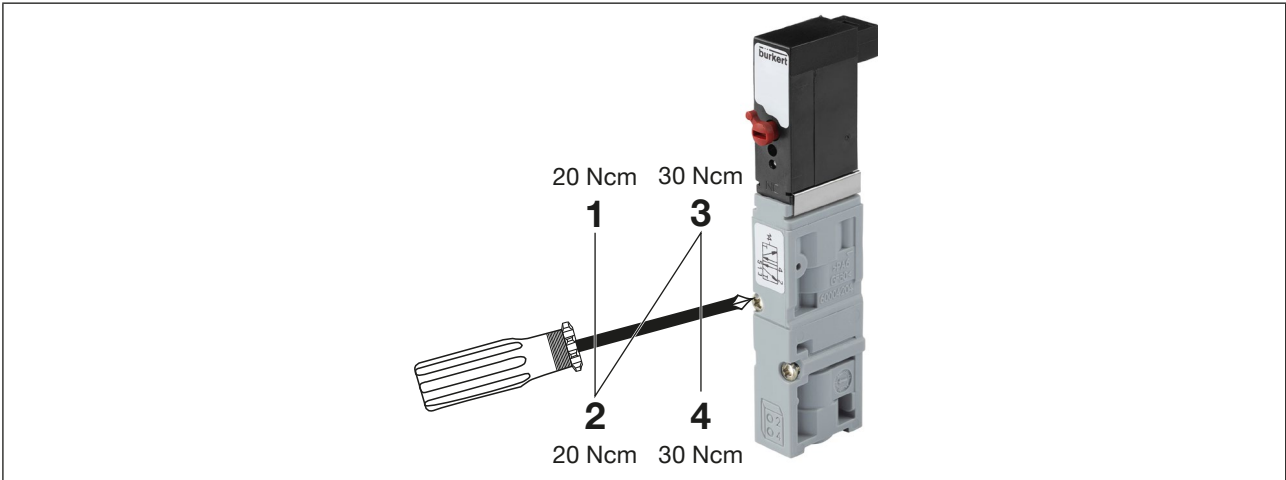

Fig. 74: Tightening the screws for valve replacement type 6524 and type 6525
- Tighten the fastening screws crosswise, observing the tightening torque (see “Fig. 74”, page 112).